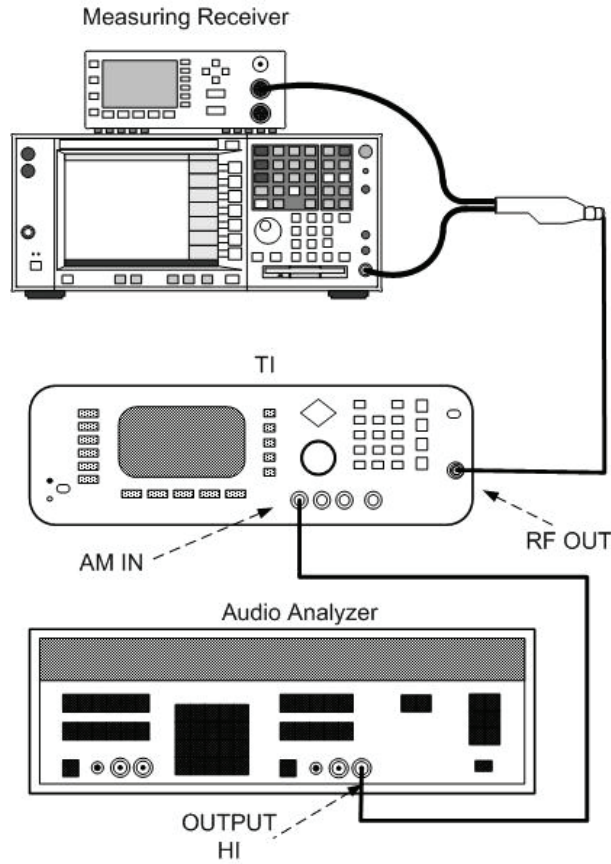

Figure 4. Amplitude modulation hook-up.
- (1) Connect equipment as shown in figure 4.
- (2) Set audio analyzer controls as listed in (a) through (d) below.